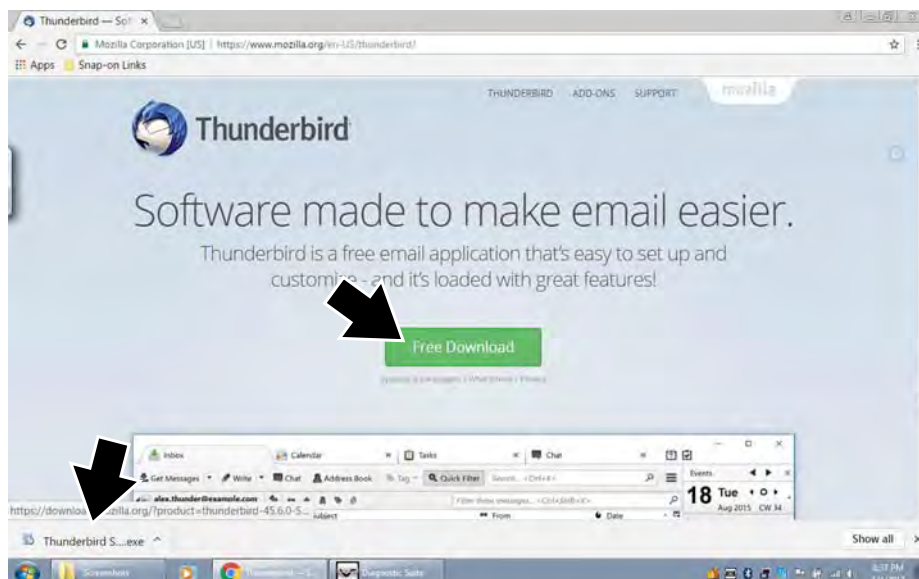

Figure 12-9
1. Download an email client (e.g. Mozilla Thunderbird) (Figure 12-9).